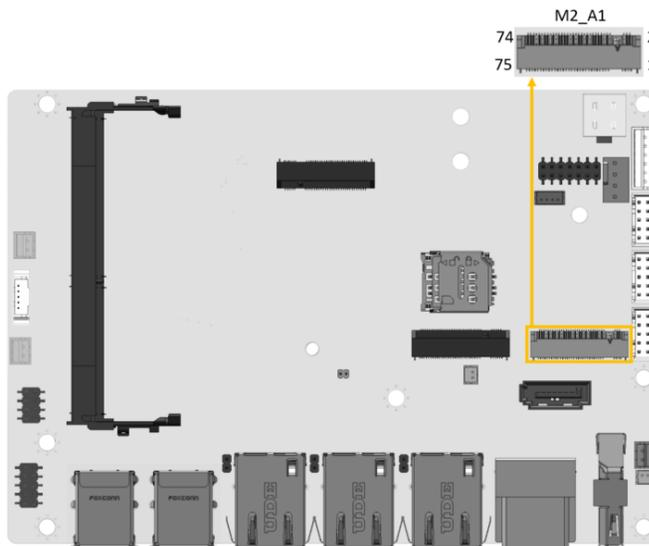

Figure 3-30: M.2 A-key Slot Location
- CN Location:** See Figure 3-30